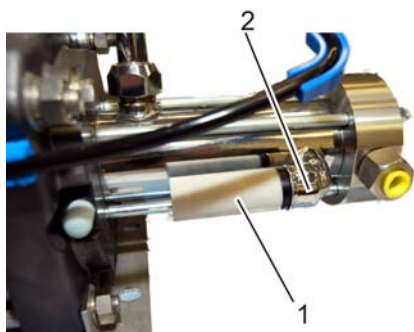

Fig. 19: Installing exhaust air silencer
3. ➔ Position exhaust air silencer (Fig. 19/1) at exhaust air connection (Fig. 19/2) and tighten hand-tight.